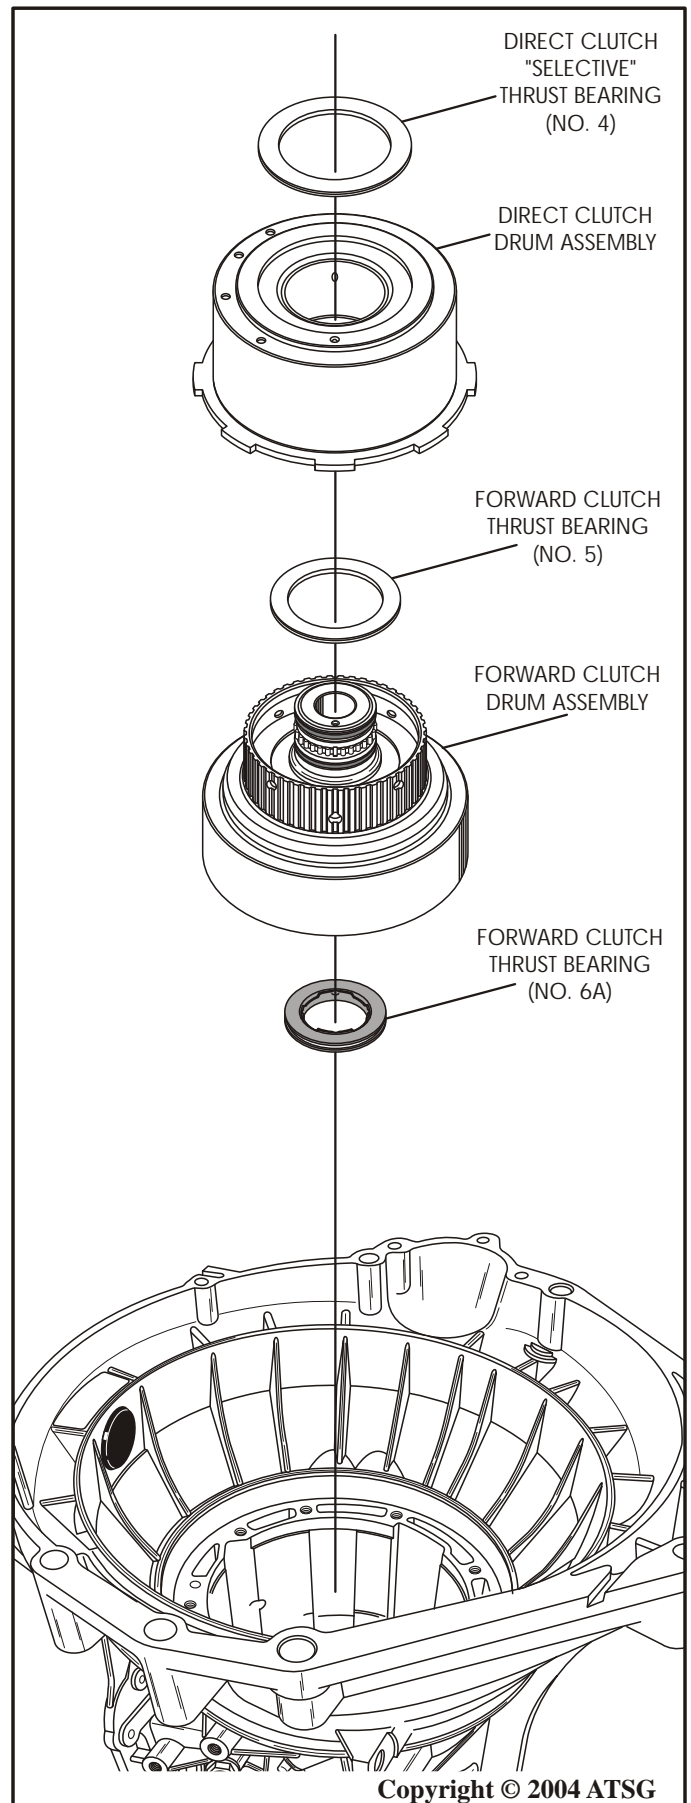

Figure 44
40. Remove and tag for I.D. direct clutch (No. 4) *selective* thrust bearing, as shown in Figure 44.
41. Remove the direct clutch housing assembly and set aside for component rebuild, as shown in Figure 44.
42. Remove and tag for I.D. forward clutch (No. 5) thrust bearing, as shown in Figure 44.
43. Remove the forward clutch housing assembly and set aside for component rebuild, as shown in Figure 44.
44. Remove and tag for I.D. the forward clutch (No. 6A) thrust bearing (See Figure 44).